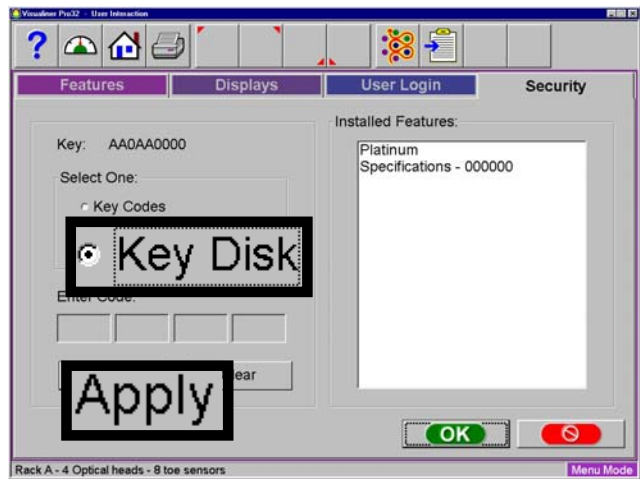

Figure 3-15
- From the Security Menu select the “**KEY DISK**” radio button. Insert the “SPECIFICATION KEY DISK” into the floppy drive and select <**APPLY**>. Once the “Key Disk” has been loaded the disk is branded rendering it useless for installations on other units. Store the disk in the cabinet for future installations for this unit only. (Figure 3-15)